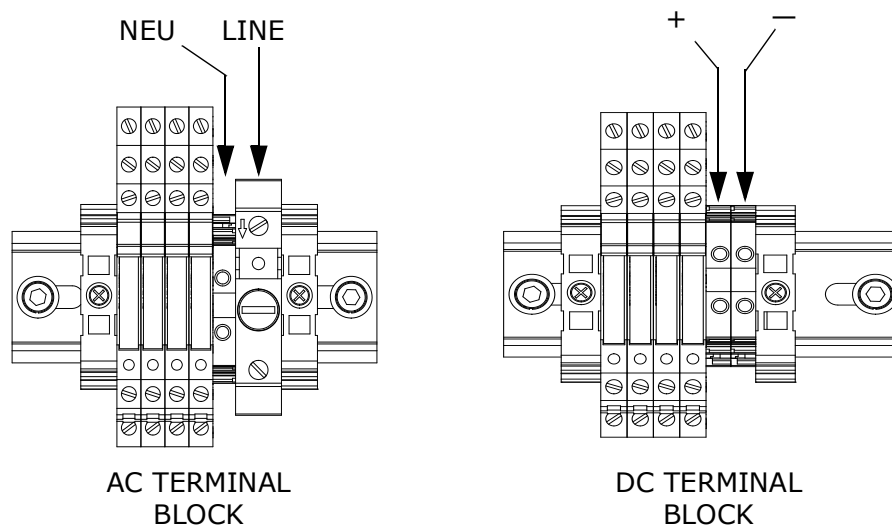

Figure 3-2 AC and DC connection terminal blocks in electronics enclosure
8. For AC systems, attach the neutral and hot wires to the power terminal block by connecting the neutral wire to the terminal marked "NEU," the hot wire to the terminal marked "LINE," as shown in Figure 3-2.
For DC systems, connect the negative wire to the terminal marked "-", and the positive wire to the terminal marked "+," as shown in Figure 3-2.
5. Wrap the wires tightly around the ferrite making sure the ferrite ends up as close to the entry point of the wires as possible, as shown in Figure 3-2.